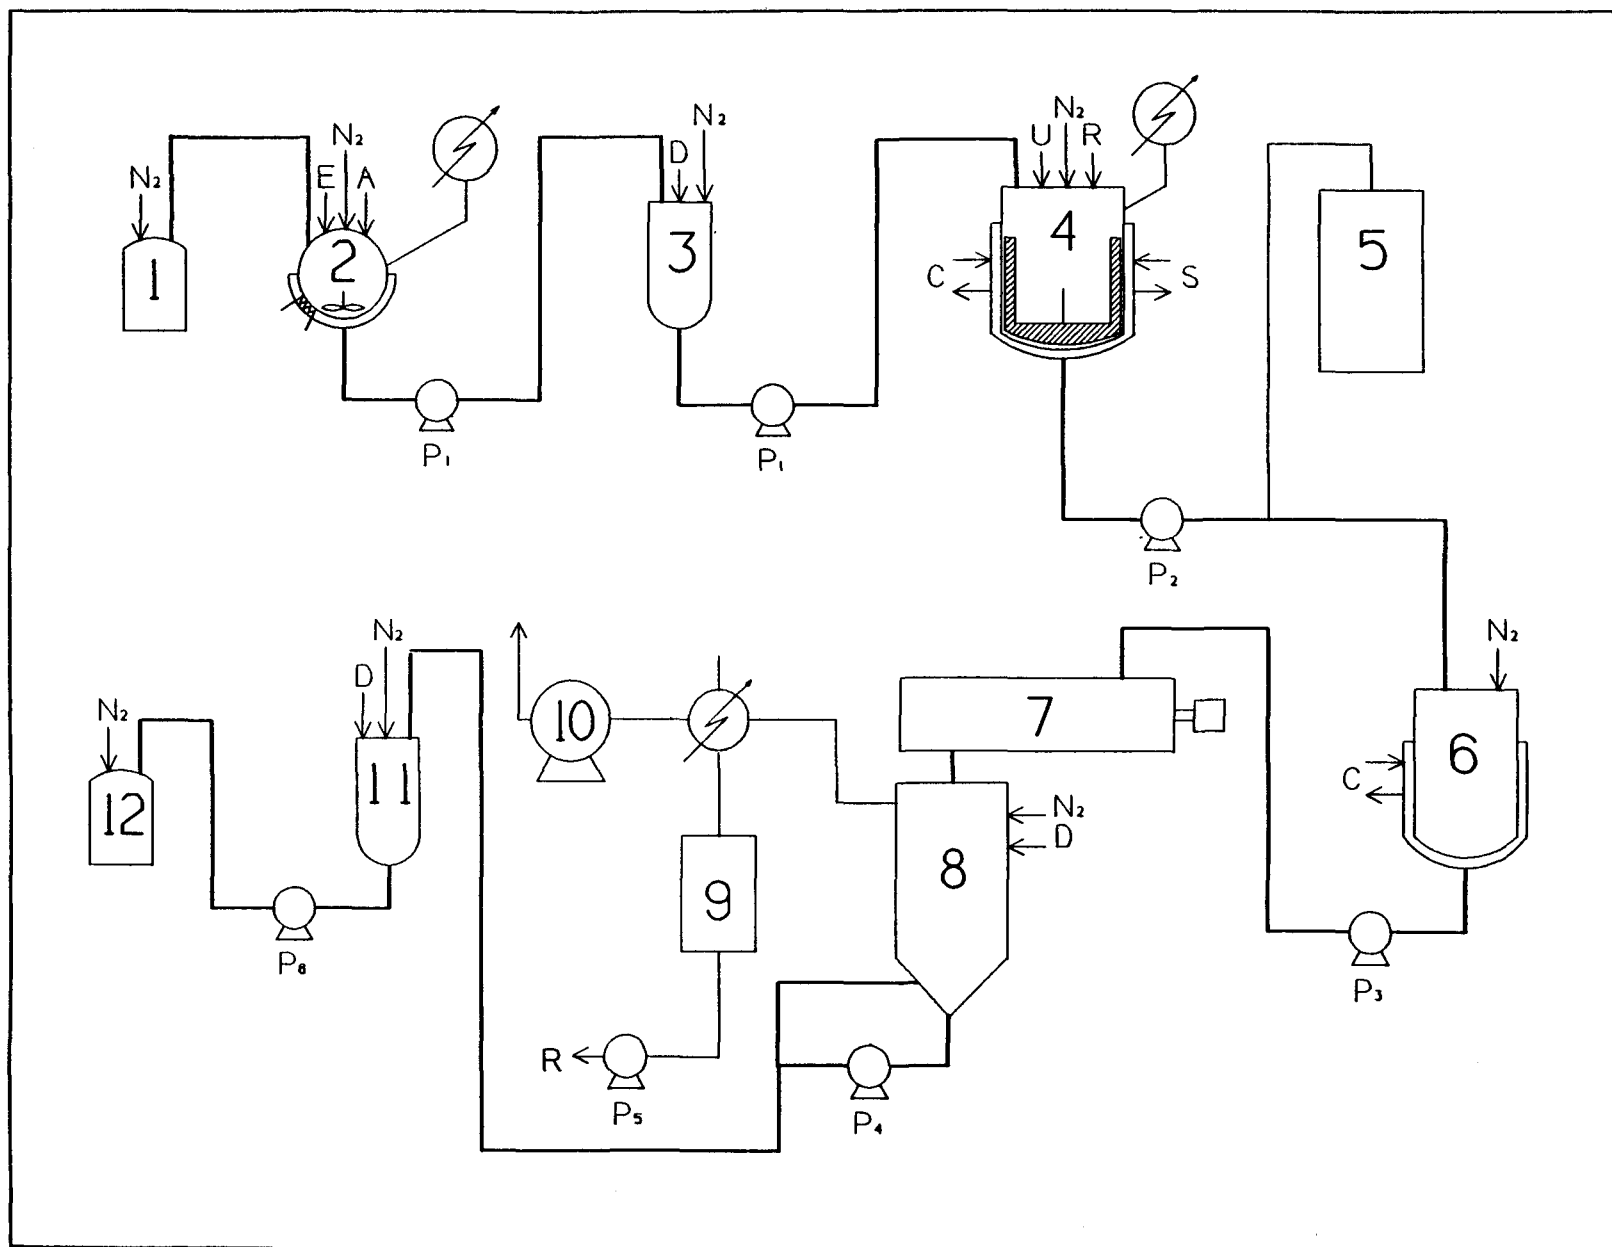
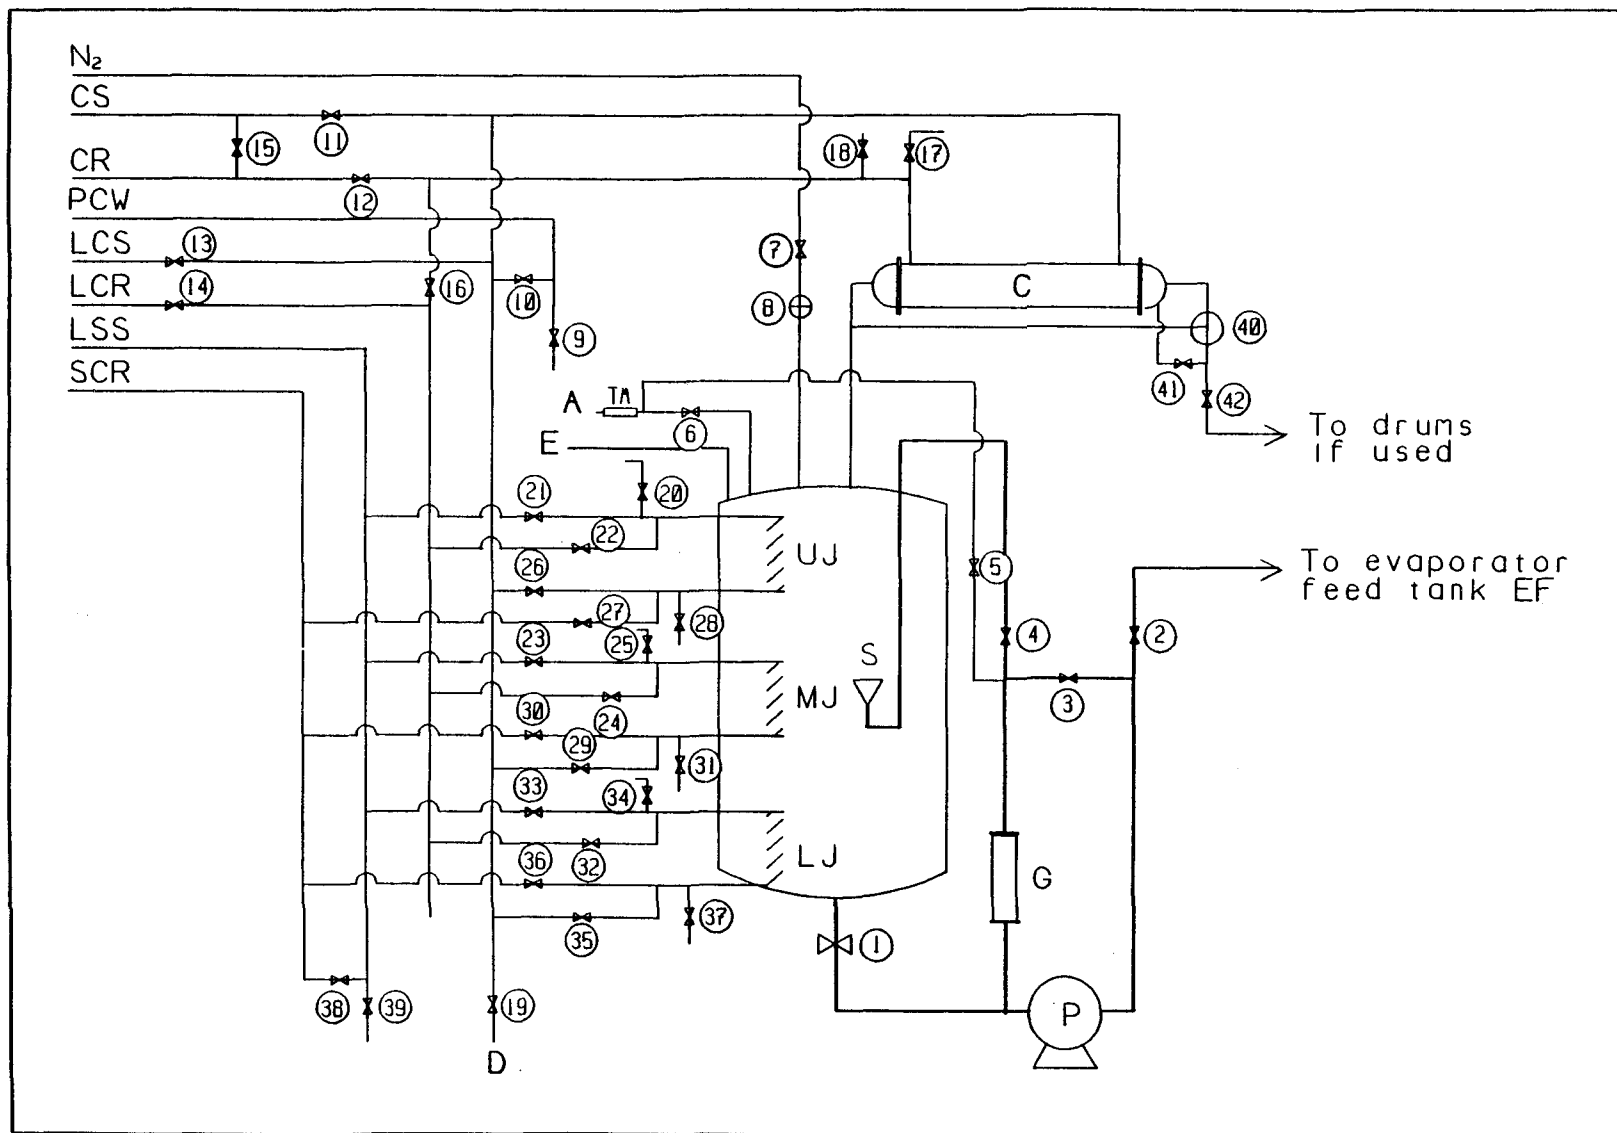

Fig. 6. Esterification-adduction-concentration flow sheet.
Fig. 7. Crystallizer valve and equipment diagram (Room 423).
The equipment consists of two 72-L all glass/Teflon reaction flasks and two 100-L separatory funnels. Each reaction flask has a N₂ sparge tube, a thermowell and thermometer, a side arm with Teflon stopper for addition of materials, an air-driven stirrer, an internal glass cooling coil, a heating mantle, and an external condenser. Each separatory funnel has a polycarbonate lid that is fitted with a N₂ supply and a deionized water supply. Air-driven pumps are used to transfer esters from the reactors to the separatory funnels and from the funnels to the crystallizer. Nitrogen, air, and chilled water are supplied to the hoods where the reaction is carried out. The relationship of this equipment to the rest of the equipment needed to produce omega-3 concentrates is shown schematically in Figure 6.
The crystallizer system consists of: a 300-gal, jacketed, stainless steel vessel with a two-speed, scraped surface mixer; a variable speed, rotary pump; a reflux/take-off condenser; a data-logger; and associated valves and piping. The crystallizer is designed with three jackets (upper, middle, and lower) any or all of which may be heated by steam and cooled with tapwater and chilled coolant. Automatic switches of the data logger turn off the mixer and coolant supply when the internal temperature reaches the set-point (5°C). If the temperature subsequently rises, the coolant supply is restored until the temperature reaches the setpoint again. Nitrogen is supplied to the crystallizer throughout the entire process. The equipment is illustrated schematically in Figure 6 and, in greater detail, in Figure 7.
- A. To prepare for operation, check alcohol, vessel, piping, valve settings, cooling water, steam, pumps, meters, temperature recorder, data logger and N₂ purge. Numbers in brackets, below, generally refer to valves and equipment located in Rm. 423 and are illustrated in Figure 7. In a few instances, the valves referred to are located in Rm. 424 and